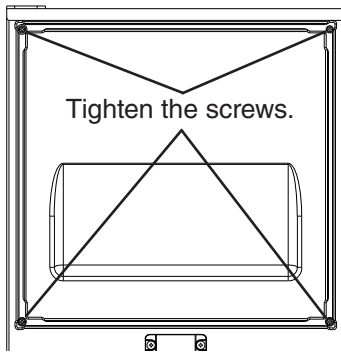

Fig. 19
- 7) Tighten the four M4x25 pan head screws installed in step 5. See Fig. 19.